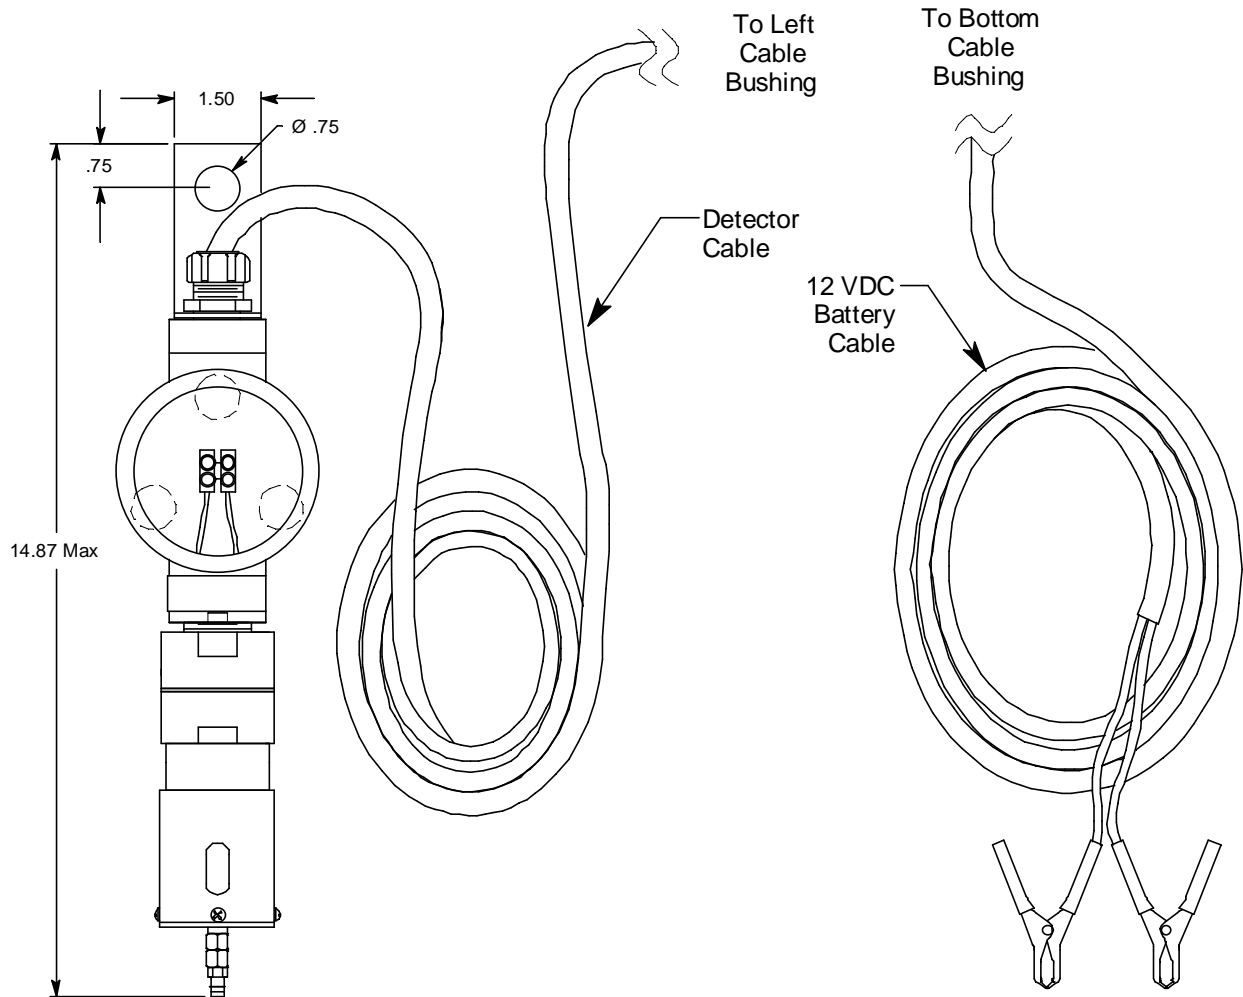

Figure 7: H₂S Junction Box Outline & Mounting Dimensions
2. At the monitoring site, use #10 screws through the Rig Monitor junction box's two mounting holes to secure the junction box to a vertical surface. Figure 7 shows the outline and mounting dimensions for the Rig Monitor. Hang the H₂S detector junction box using the mounting bracket. Ensure that the detector is facing down.